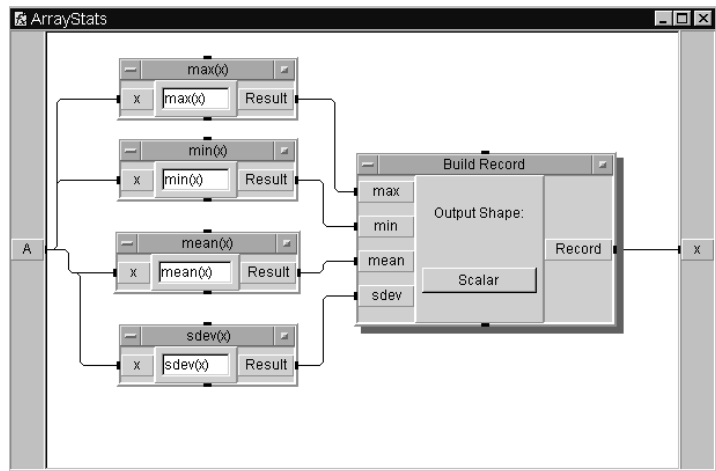

Figure 184 Editing the UserFunction ArrayStats
- f Connect the Build Record output to the **X** output terminal on the User Function editing window. The program should look like Figure 184. Then click the iconize button on the window.